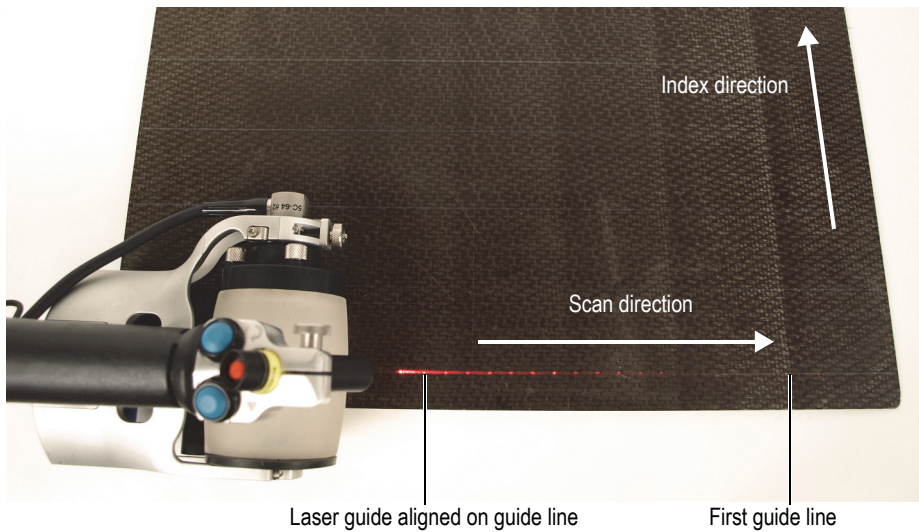

Figure 5-4 Positioning the RollerFORM on the first guide line
5. Position the RollerFORM in line with the first guide line drawn on the surface to inspect, at the edge of the area to be inspected (Figure 5-4 on page 73).